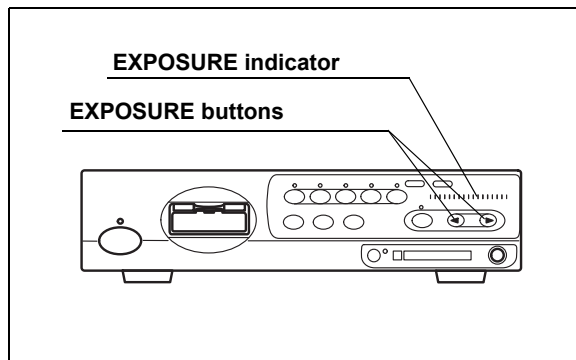

Figure 5.10
2. Set the brightness, using the "EXPOSURE" buttons on the front panel (see Figure 5.10). The brightness level is displayed on the "EXPOSURE" indicator.